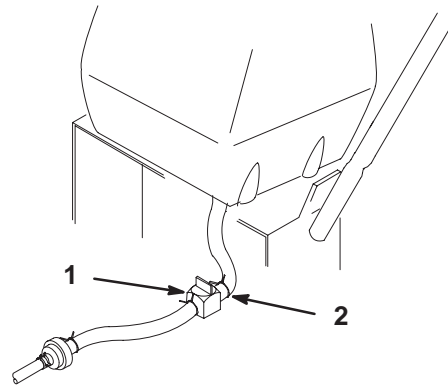

Figure 38
2. Close fuel shut-off valve at fuel tank (Fig. 38).
3. Squeeze the ends of the hose clamp together and slide it up the fuel line away from valve (Fig. 38).
4. Pull the fuel line off the valve (Fig. 38). Open fuel shut-off valve and allow gasoline to drain into a gas can or drain pan.
6. Open fuel shut-off valve at fuel tank (Fig. 38).
7. Check for fuel leaks and repair if needed (Fig. 38).